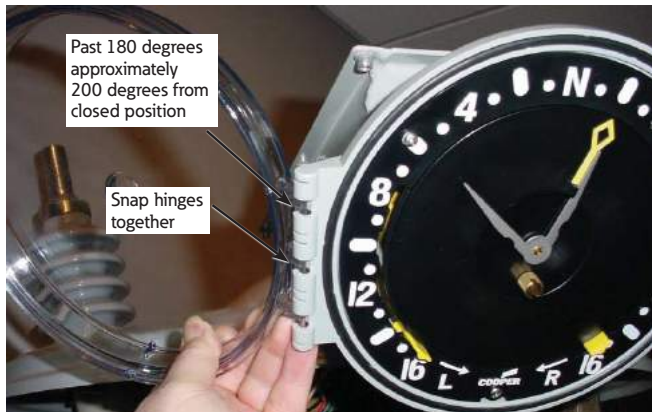

Figure 4. Main cover installation
3. Locate the new main cover at a position greater than 180 degrees from the closed position and snap the main cover and hinges together. See Figure 4.